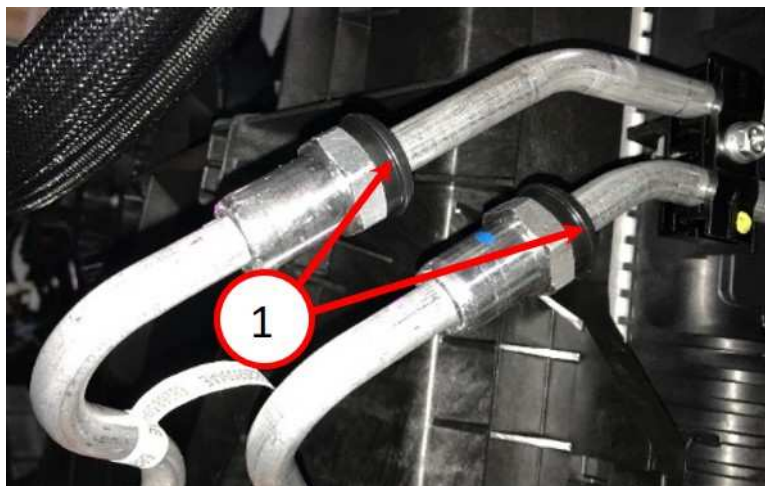

Fig. 4
3. Slide the assurance caps down the tube and snap the cap over the fitting. Listen or feel for a "snap" or "click" as the cap engages with the fitting (**Fig. 4**) .